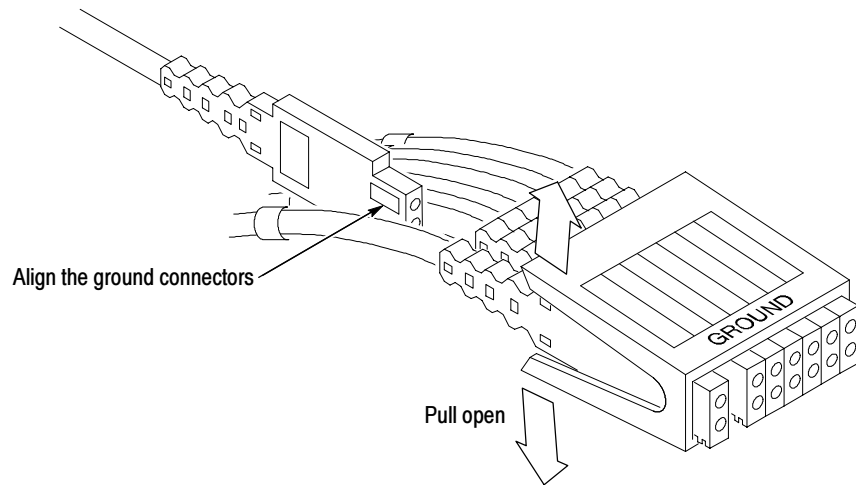

Figure 14: Replacing a podlet in the podlet holder
- 13.** Remove the faulty podlet cable from the podlet holder and replace it with the new cable as shown in Figure 14.